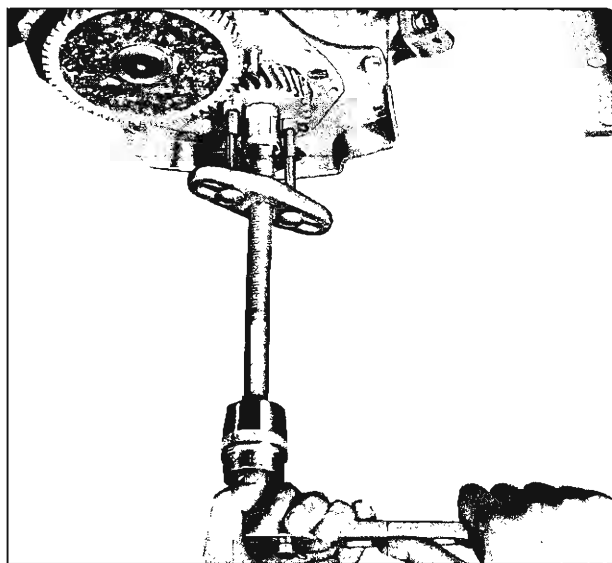

Fig. 42—Removing Crankshaft Gear
12. Remove the crankshaft gear, if necessary with Tool J-8105 by attaching it to the gear and turning the puller handle (fig. 42).